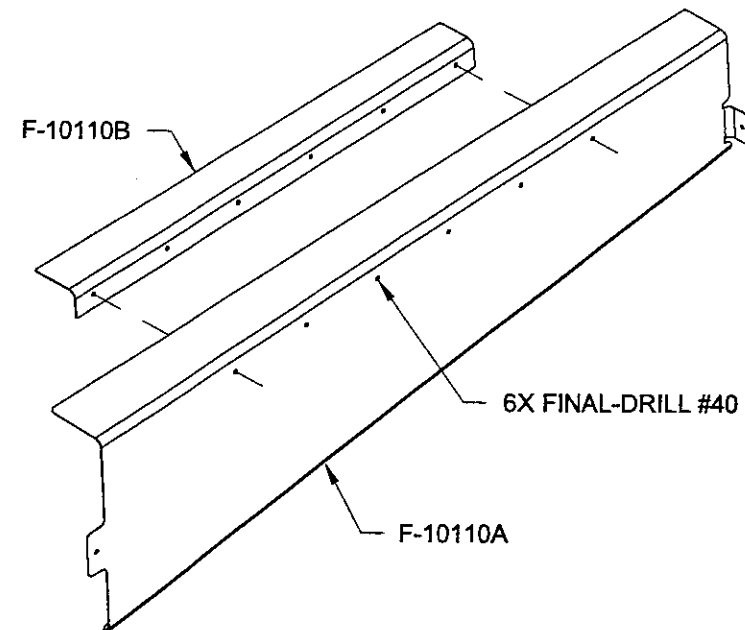

FIGURE 2: FINAL-DRILLING CLIP AND WIRE COVER
Step 2: Cleco together the F-10110A Wire Cover and F-10110B Clip creating the F-10110-L Wire Cover Assembly and final-drill as shown in Figure 2.